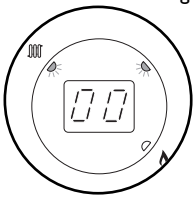

Fig. 98
6. The display will show '00', indicating maximum rate, then revert to 'P' alternating with the current boiler temperature (Figs. 98, 99 & 100).